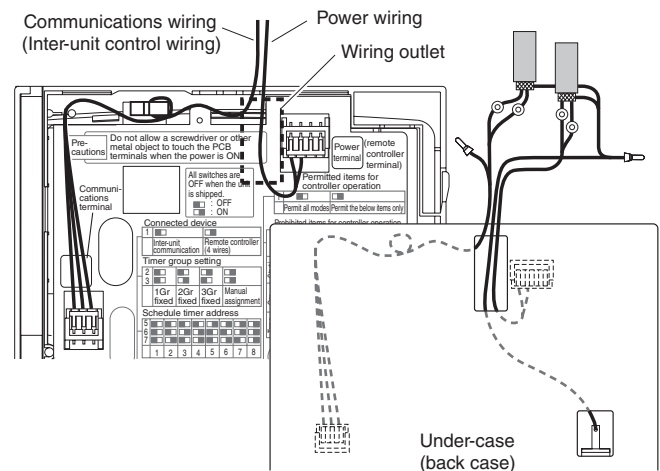

Fig. 3-4-5
- Check that the schedule timer communications wiring and power wiring are connected correctly. (Fig. 3-4-5)